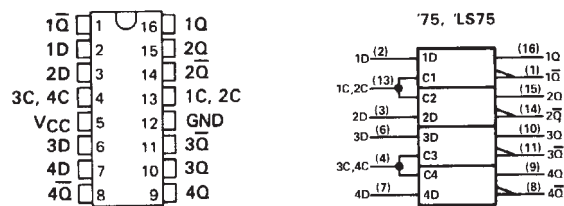
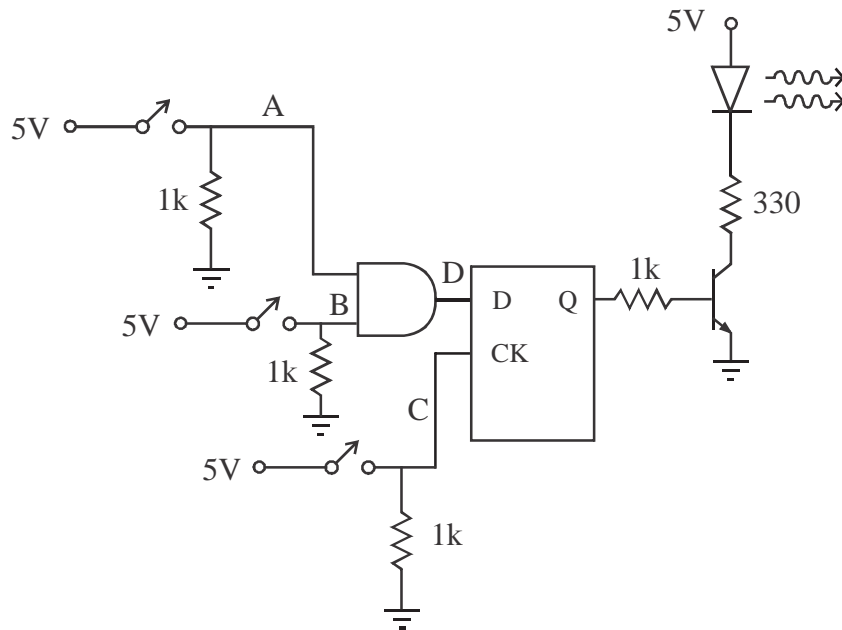

Figure 7.7 Pin-out and schematic symbol diagrams for the 7475
Figure 7.11 Data Latch Circuit Schematic
- (4) Replace the 7474 with the 7475 bistable data latch and rewire the circuit based on the circuit schematic in Figure 7.7. The circuit schematic is shown in Figure 7.11. The only difference from the previous circuit is that the D-latch is not edge triggered. Again, look at and think about Question 2 at the end of the Lab before continuing.